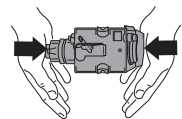

Figure 27
- If it is difficult to insert the brewing system, squeeze it into size by vigorously pressing from above and below at the same time (Figure 27).